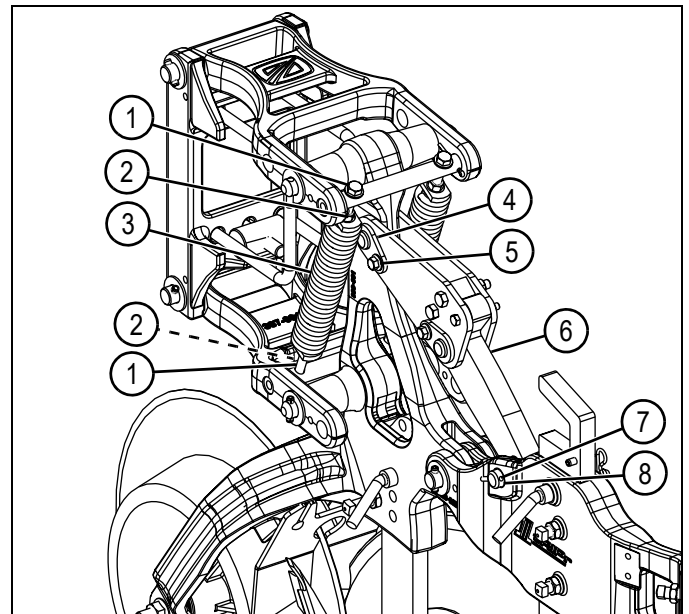

Figure 4-19
14. Insert bolts (1), jam nuts (2), and left down-pressure spring (3), see Figure 4-19 on page 4-17.